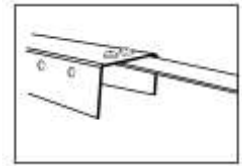

fig. 9
Take into account that the strap has to be attached to the lower part of the profile (4), fig.9. in a way that the heads of the screws are in the upper side of the profile and the nuts are in the lower side of the profile.